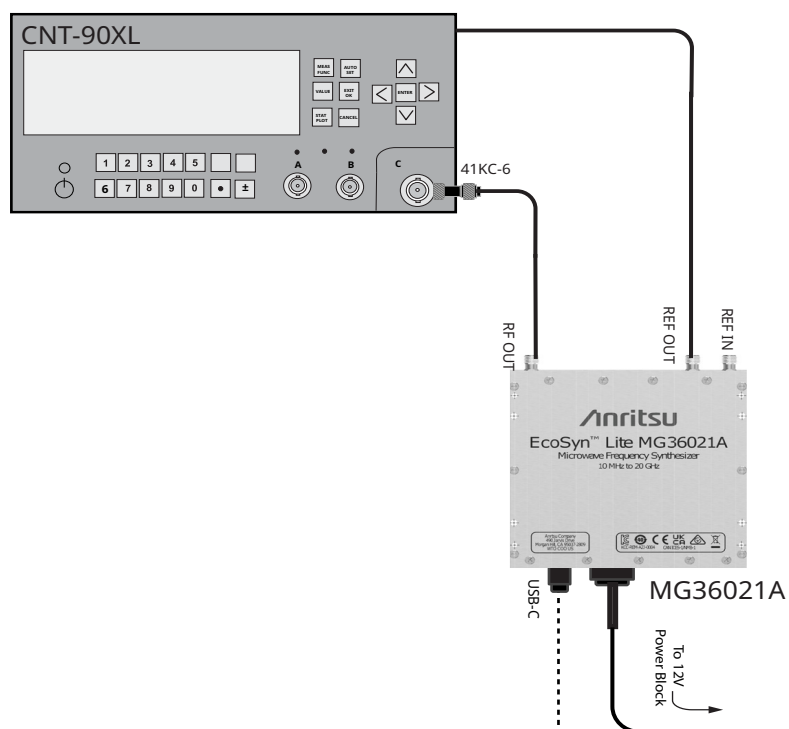

Figure 2-1. Frequency Accuracy Measurement Setup with MG36021A and CNT-90XL
3. Connect the other end of the 41KC-6 attenuator to the input port C of the CNT-90XL using an RF coaxial cable. See Figure 2-1 for completed setup.